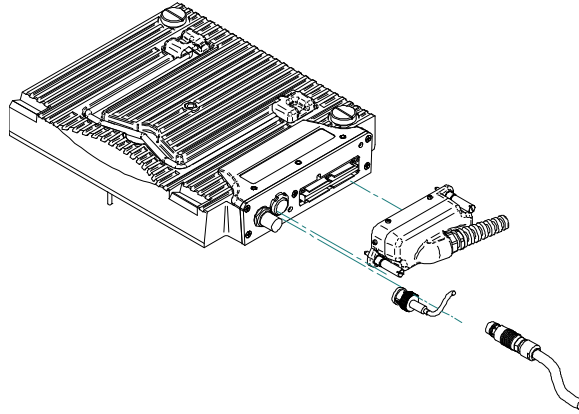

Figure M-2 The ECA module with connectors
1. Align the ECA probe connector correctly by matching its guide pins with the EC ARRAY module receptacle (see Figure M-2 on page 181).